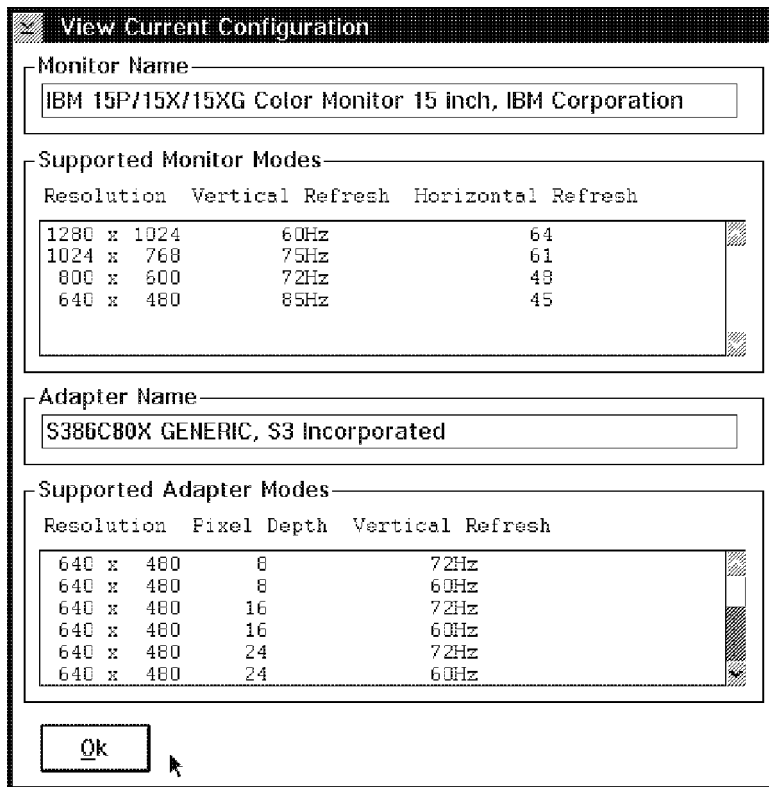

Figure 17. System Setup: View Current Configuration
8. Also on page 2 of the Screen tab, you can select **View Current Configuration**. This gives a more detailed description of the currently selected display's capabilities. It contains information such as supported resolutions and the maximum vertical and horizontal scan rate as specified in the data sheet supplied by the display manufacturer to IBM. The sample shown in Figure 17 on page 58 was taken from an IBM 15P monitor attached to an IBM ValuePoint 6384 W71 system.